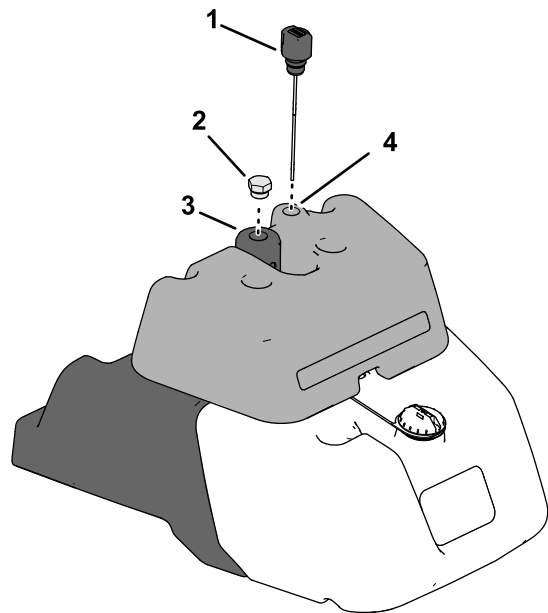

Figure 43
2. Check the hydraulic-fluid level by locating the dipstick for the hydraulic system at the top of the leak detector tank (Figure 43).